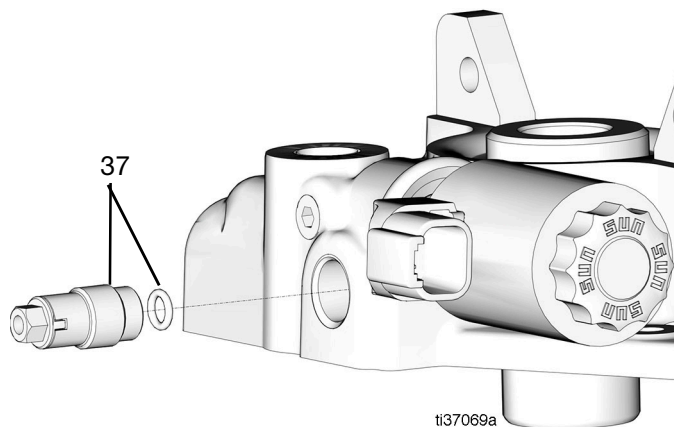

FIG. 73
33. Place the o-ring onto the check valve, and then place into the pump outlet and tighten (torque 16 ft-lb/21.7 N•m) (FIG. 73).